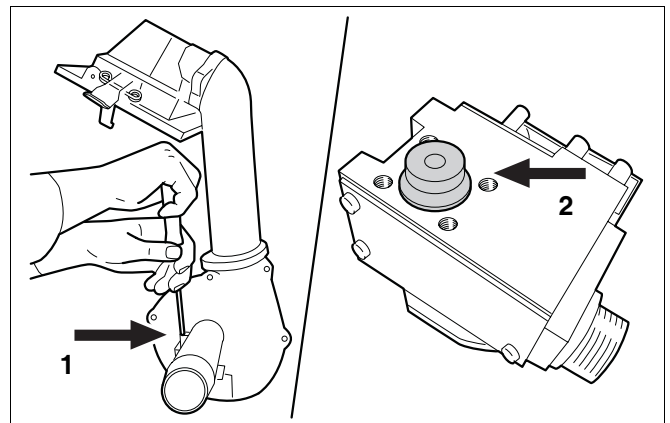

Fig. 50 Replacing the gas orifice
- Loosen the three crosshead screws and remove the gas valve from the fan unit (fig. 50, pos. 1).
- Remove the gas orifice (fig. 50, pos. 2).